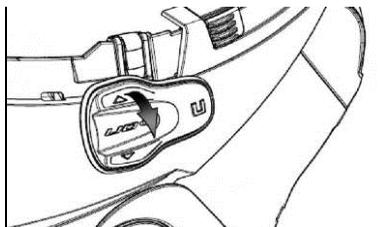

Fig. 20
- Remove the keypad from the shell, as shown in Fig. 20.